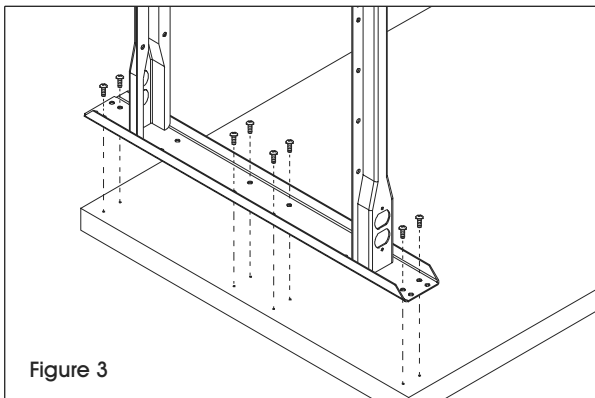

Figure 3
1. Using 16 wood screws, attach legs to the underside of the top (5) through pre-drilled holes. (See Figure 3)